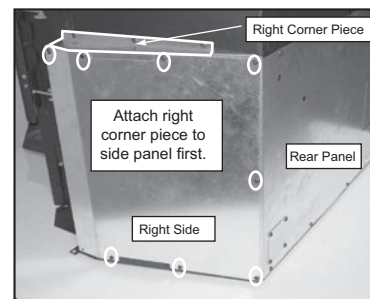

Figure 21.4
4. Assemble the right corner and right panel pieces using 4 screws prior to attaching to insert. **Figure 21.4.**
5. After assembly, attach the right shroud panel/corner piece assembly to the insert with 3 screws across the bottom and 1 on the side. **Figure 21.4.**